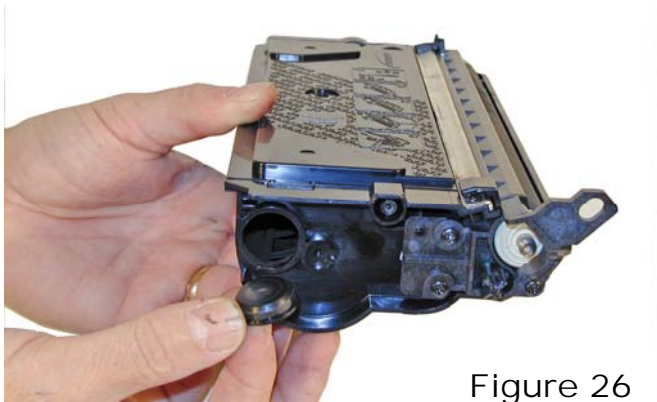

Figure 26
23) Install the fill plug, check for leaks. See **Figure 26**